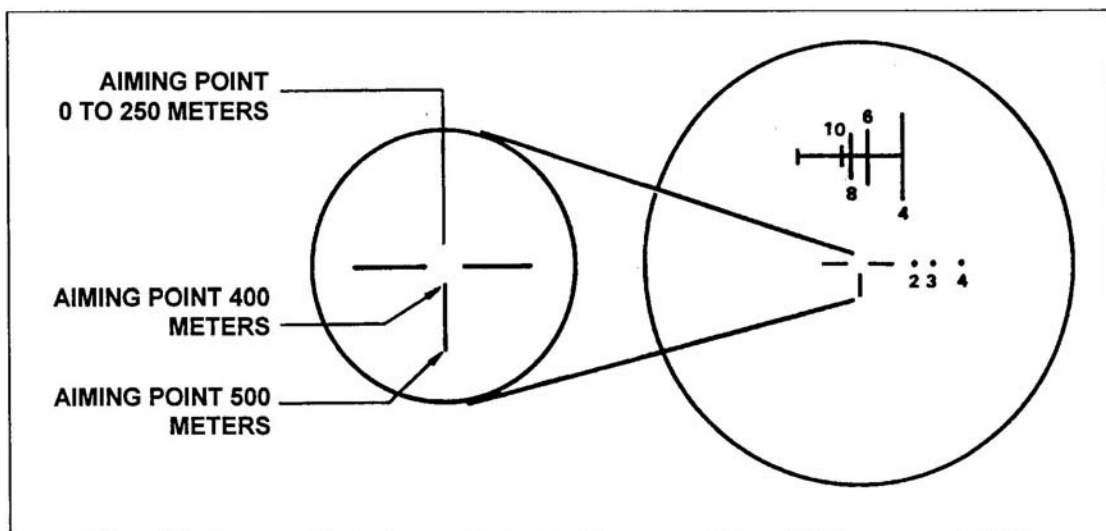
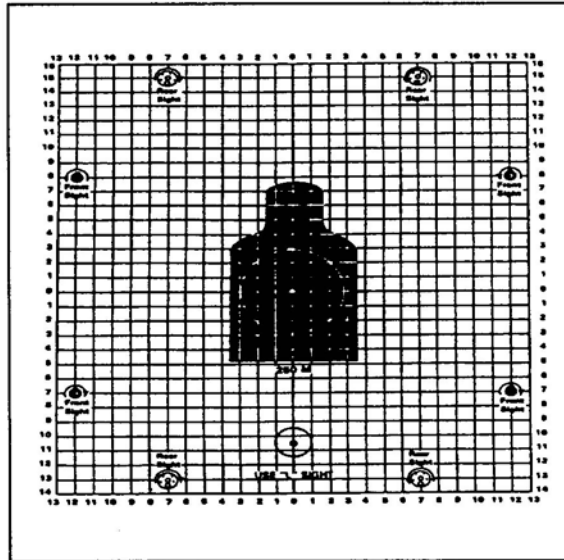
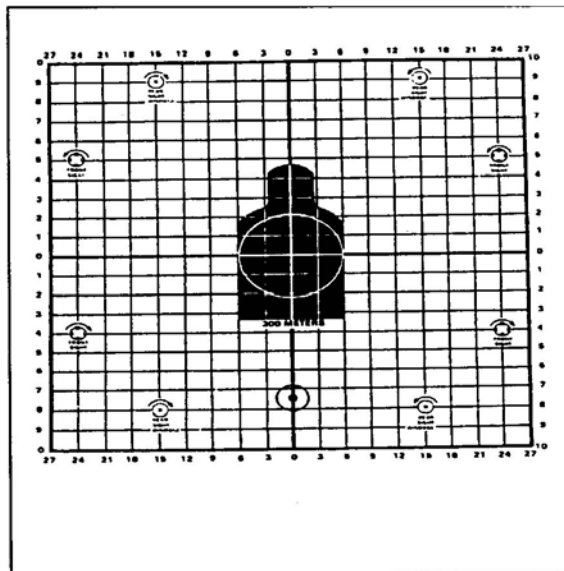

Figure 1. Zero aiming point.
Figure 2. M16A1 zeroing target.
Figure 3. M16A2 zeroing target.
5. Place the zeroing range aiming point of the reticle on the target aiming point; fire three rounds to obtain a good shot group (Figure 1). Use either the M16A1 25-meter zero target (NSN 6920-01-167-1392) shown in Figure 2 or the M16A2 25-meter zero target (NSN 6920-01-253-4005) shown in Figure 3. When zeroing the night vision sight, you can use either of these targets with either the M16A1 or M16A2 rifle. Use the marginal information on the target to adjust the sights on the rifle-not the night vision sight.
6. Locate the center of the shot group. From the center of the group, adjust the reticle to move the center of the shot group to a point 7 centimeters (10 1/2 squares on the M16A1 target; 7.8 squares on the M16A2 target) directly below the target aiming point (Figure 2 and Figure 3). Mark the reticle adjustment actuators to show the direction of round impact movement.
- b. On the M16A1 zero target, 1 1/2 squares equals 1 centimeter and 10 1/2 squares equals 7 centimeters (Figure 2). On the M16A2 zero target, each square is .9 centimeter and 7.8 squares equal 7 centimeters (Figure 3).